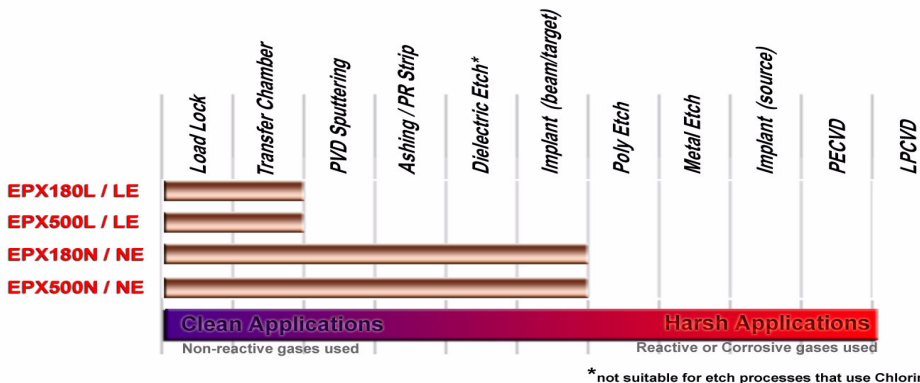
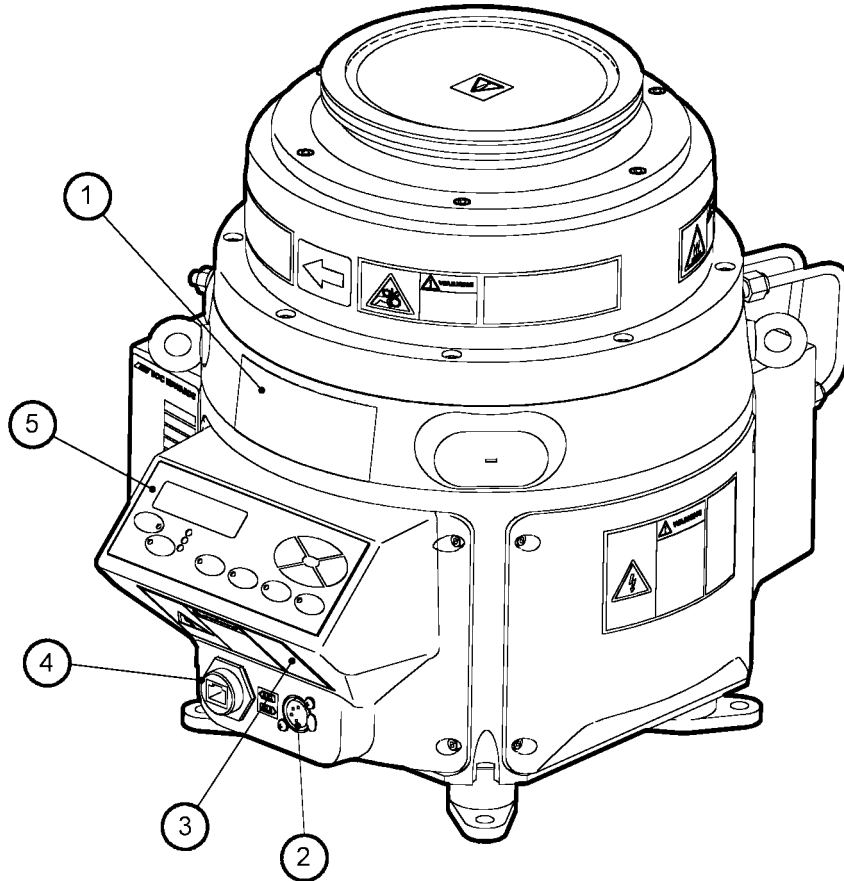

Figure 1 - Process Compatibility Chart
Figure 4 - EPX E Dry Pump
<p style="text-align: center; margin: 0;">WARNING</p> <p>The EPX Dry Vacuum Pump must only be used for the applications depicted in Figure 1. Incorrect use of the EPX system could invalidate your warranty. Contact your local BOC Edwards representative if you are unsure whether the EPX system is appropriate for your application.</p> <p>The EPX pump should not be used to pump explosive mixtures or pyrophoric gases.</p>
This pump is for use on clean duty applications such as loadlock, and is augmented with an End User Controller (EUC). The End User Controller enables local control for stand-alone use as well as the ability to connect to a fab-wide network for remote control and monitoring. A Pump Display Terminal (PDT) may also be used with the End User Controller to facilitate local control. (Refer to Figure 4).
This is fitted with a gas module that supplies nitrogen purge gas to the shaft seal and pump mechanism areas to provide dilution of process gases for the light duty applications specified in Figure 1. (Refer to Figure 4, Table 5 and Section 3.6 for further information).
This system is a light process application pump with network and local control capability through the EUC as described in Section 1.2.2. (Refer to Figure 4).
Table 4 - EPX E (Refer to Figure 4)
The EPX E series of pumps can be manually operated using the EUC local display and keypad, or remotely using a PDT, if fitted; it can also be controlled and monitored over the network, which connects to the EPX pump through the Network connector (Figure 4, item 2). When the EPX 'E' series of pumps is controlled via the TIM, the EUC simply monitors the status of the pump.